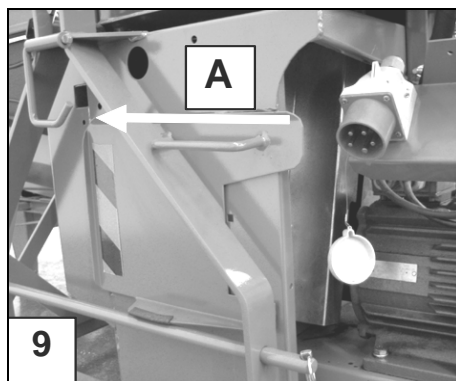
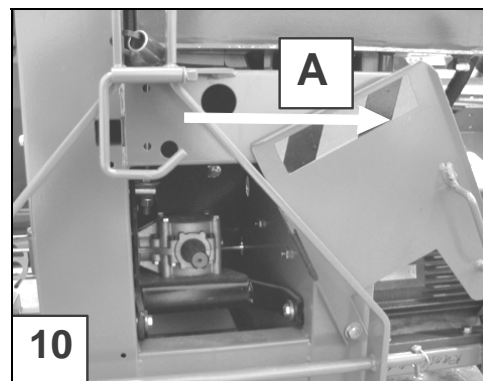

Fig. 9. Selecting the powered-by-electricity mode
Fig. 10. Selecting the powered-by-tractor mode
3.6 Selecting the operating mode: powered by tractor or electricity (Figures 9 and 10)
- When the cover plate is shifted to the left (Figure 9), it is possible to connect the extension cable, and when it is shifted to the right (Figure 10), it is possible to connect the power take-off shaft.